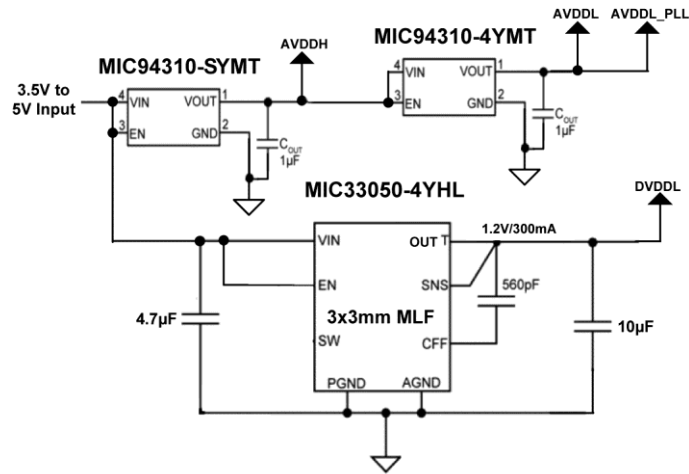

Figure 12. Low EMI/High Quality Link Solution Generating Clean Analog 3.3V
- Application board does not feature clean (low-noise/low ripple) 3.3V generated by an LDO or does feature a 3.3V generated from a switching DC-to-DC converter. Recommended solution is described in Figure 12.